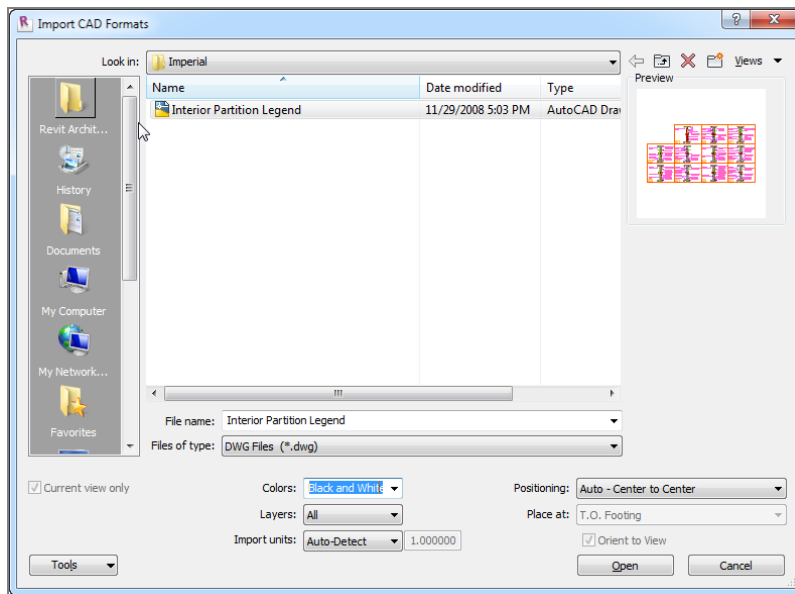

FIGURE 11.53: The Import CAD Formats dialog box. Be deliberate when importing a CAD file by choosing the options at the bottom of the dialog box.
6. At the bottom of the Import CAD Formats dialog box, notice that you have a few choices (see Figure 11.53):